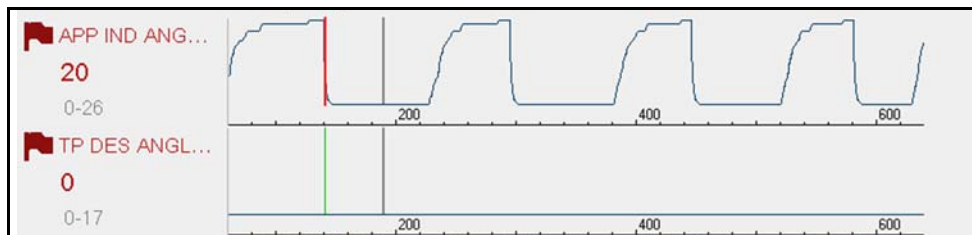

Figure 7-10 Triggers activated
- A red cursor line is displayed on the graph (Figure 7-10) of the PID with the activated trigger to indicate where the trigger occurred.